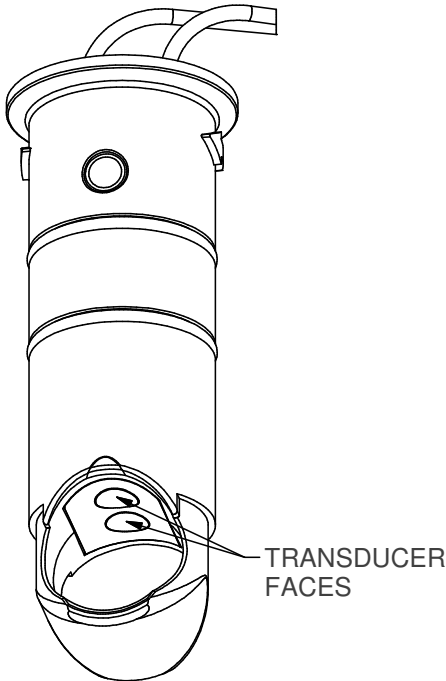

Figure 10
3. The faces of the transducers need to be clean and free of oily substances for accurate operation. Do not touch transducers with fingers, oily rags, etc. **DO NOT** use wire brushes or abrasives to clean the faces of the transducers (see Figure 10).